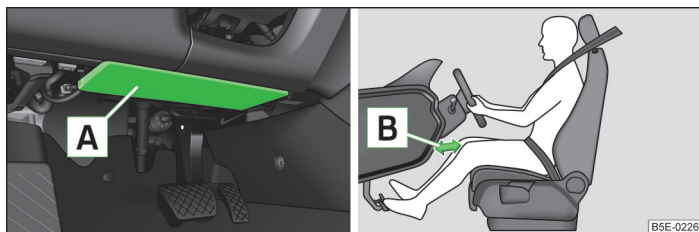

Fig. 166 Driver's knee airbag below the steering column
The driver's knee airbag **A** is located in the lower part of the dash panel below the steering column » Fig. 166.
- Adjust the driver's seat in a forward/back direction so that there is a gap of at least 10cm between the legs **B** and the dash panel in the vicinity of the knee airbag » Fig. 166. If it is not possible to meet this requirement due to your body size, visit a specialist garage.